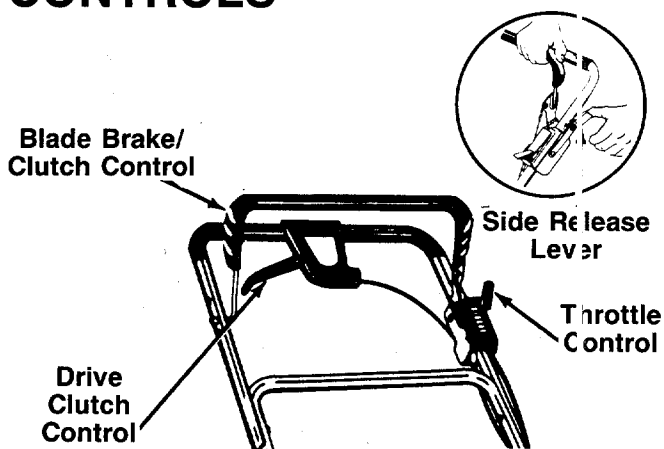

FIGURE 18.
To engage the blade, pull the side release lever away from the unit. See figure 18. Pull the blade brake/clutch control handle against the upper handle. Release side lever.
Squeezing the drive clutch control engages the drive mechanism to the rear wheels. Releasing the clutch control stops the rear wheels from driving. Release the drive clutch control to slow down when negotiating an obstacle, making a turn or stopping. See figure 18.
2. To engage the blade, pull the side release lever away from the unit. Pull the blade brake/clutch control handle down against the upper handle. Release the side lever. See figure 18.